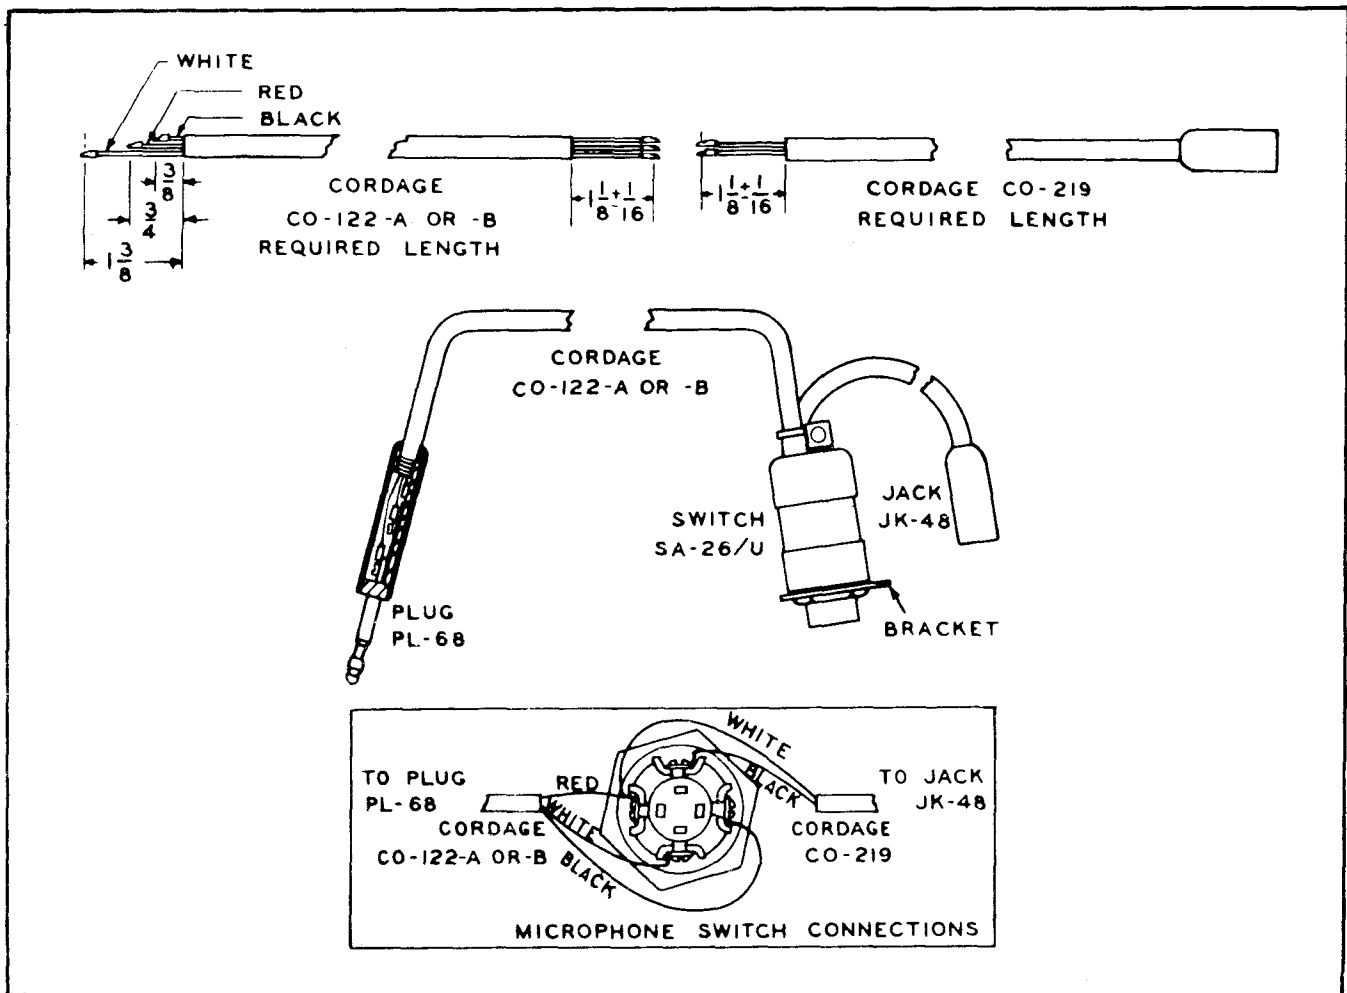
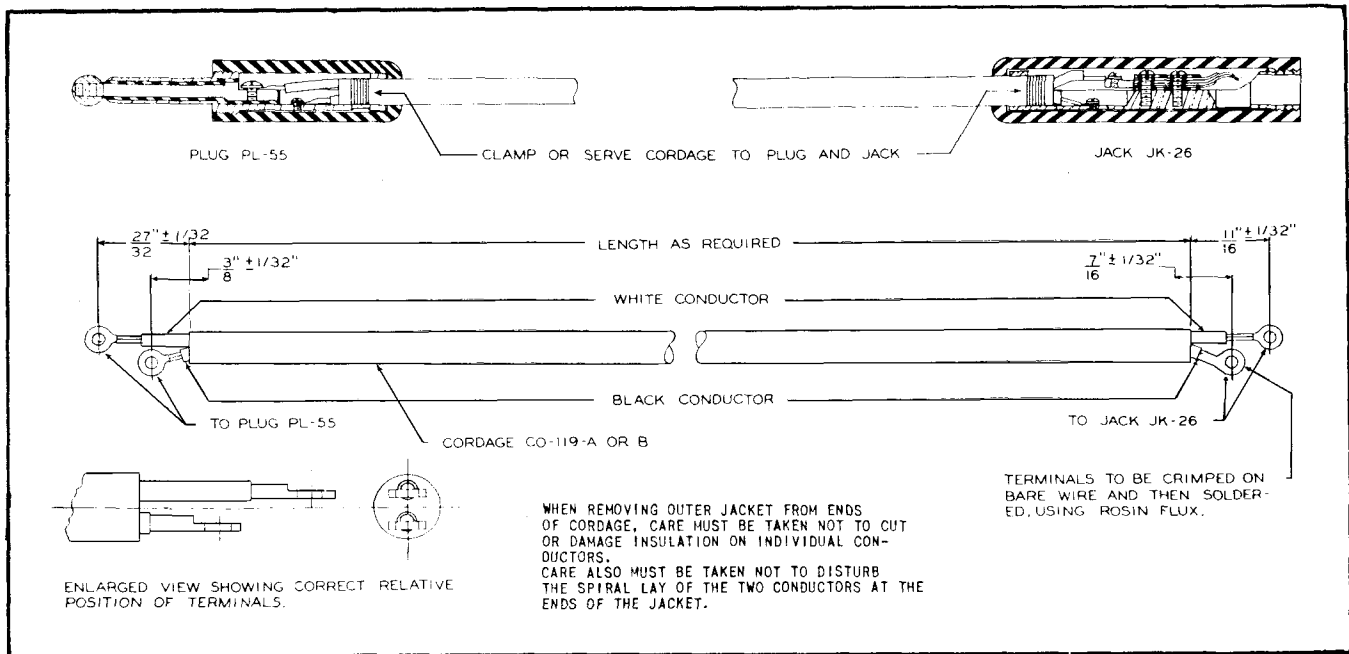

Figure 2-1. Microphone Extension Cord Assembly
Figure 2-3. Cord CD-307-A—Headset Extension Cord Assembly Wiring Diagram
(1) Connect all incoming wires for the jack boxes to the soldering lugs on the underside of the jack terminal plate. The jack terminal plate is mounted on the bottom of the box and may be removed from the box when making the connections.
(2) In general for the radio operator's jack box, wire the liaison radio set to the liaison-VHF terminals of the jack box (terminals 2, 6, and 8) and connect the audio output of the VHF radio set to the spare call circuit (terminal 7). Mark out the letters "VHF" on the cover of the jack box with black lacquer.
(3) Generally for all other jack box stations in the airplane, connect the VHF radio set to the liaison-VHF terminals of the jack box (terminals 2, 6, and 8) and wire the audio output of the liaison radio set to the spare call circuit (terminal 7). Mark out the word "LIAISON" on the cover of the Jack box with black lacquer.
(4) Since the installation of this equipment varies with different airplane types, the installation drawings and mockup information for each particular airplane type should be consulted for detailed information as to the required interconnecting wiring.
e. PREPARATION OF MICROPHONE EXTENSION CORD.—If the microphone extension cord consists of Jack JK-48, a length of Cordage CO-219, Microphone Switch SA-26/U, (see fig. 2-1) a length of Cordage CO-122-A or CO-122-B and Plug PL-68, assemble the cord in the following manner:
(4) Remove the cordage clamp from the case of Microphone Switch SA-26/U and screw the case off the switch.
(5) Pull the other end of Cordage CO-219 through the cordage hole in the case for Microphone Switch SA-26/U and through the switch mounting hole in the bracket used to assemble the switch to the gun mount, or other point of location. Solder proper terminals to both conductors. Connect the white conductor to terminal X and the black conductor to terminal 1 of the switch.
(6) Pull the end of Cordage CO-122-A or CO-122-B through the cordage hole in the switch case and through the hole in the bracket. Solder suitable terminals (TM-50) to the conductors. Connect the red conductor of the cord or cordage to terminal X, the white conductor to terminal 2, and the black conductor to terminal G of the switch.
(7) Make sure that terminals are properly located, that a lockwasher is under the head of each screw, and that all four screws are securely tightened.
(8) Assemble the switch and case to the mounting bracket and tighten securely. Holding the switch fixed, thread the case onto the switch until one of the notches in the switch case engages with the punched lug on the mounting bracket. Then secure the assembly by tightening the hexagonally headed portion of the switch. Turn the cords in the case at the same time the switch is being rotated in tightening.
(9) Place the cordage clamp on the switch case and clamp the cords by securely tightening the screw. Properly clamped cords will require at least a 12-pound force to pull the cords out of the switch case.
(10) Slip the plug shell for Plug PL-68 onto the cordage.
(11) Connect the other end of Cordage CO-122-A or CO-122-B to Plug PL-68. Solder Terminals TM-89 of Plug PL-68 to the conductors of Cordage CO-122-A or CO-122-B, as shown in figure 2-1. Connect the white conductor to the tip, the red conductor to the ring, and the black conductor to the sleeve.
(12) Clamp or serve the cordage securely to the plug and thread shell tightly onto plug. Cordage properly clamped or served will require at least a 12-pound force to pull the cordage from the plug.
(13) Test cord for shorts and continuity with an ohmmeter.
f. PREPARATION OF CORD CD-307-A (HEAD-SET EXTENSION). (See figure 2-3)—Cord CD-307-A consists of a Plug PL-55, a length of Cordage CO-119-A or CO-119-B and a Jack JK-26. Assemble the cord in the following manner:
(1) Strip the jacket at each end of the cordage a sufficient length to allow for making the necessary connections. Do not cut or damage the insulation on the individual conductors or disturb the lay of the conductors at the ends of the jacket.
(2) Slip the shells for the plug and jack onto the cordage.
(3) Solder terminals to both conductors on each end. Terminals are furnished assembled to the plug and jack.
(4) Connect one end of the cordage to Plug PL-55 and the other end to Jack JK-26 as indicated in figure 2-3. In wiring Cordage CO-119-A or CO-119-B to Plug PL-55, connect the white conductor to the tip and the black conductor to the sleeve. In wiring Cordage CO-119-A or CO-119-B to Jack JK-26, connect the white conductor to the contact spring and the black conductor to the sleeve.
(5) Clamp or serve the cordage to the plug and to the jack, and assemble proper shells on the plug and jack. Cordage properly clamped or secured will